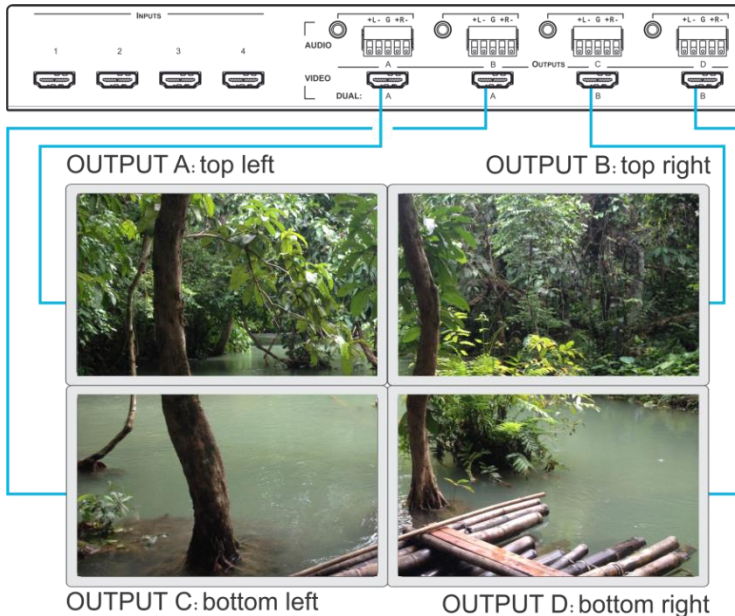
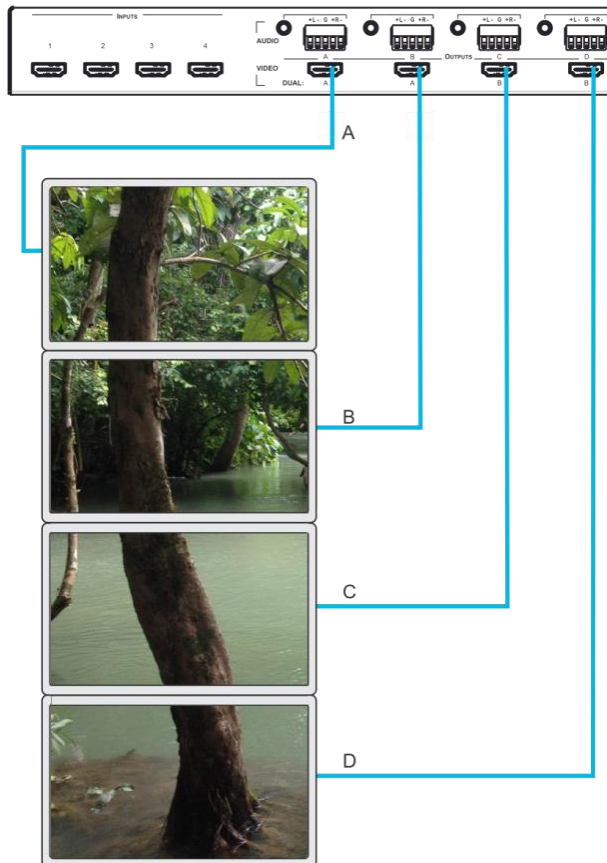

Figure 5: Connecting the VSM-4x4A in 2x2 Video Wall Operation Mode
Figure 6: Connecting the VSM-4x4A in 1x4 Video Wall Operation Mode
To connect the video wall as illustrated in Figure 5 and Figure 6:
1. Connect the inputs, not shown in Figure 5 and Figure 6.
Figure 5 shows a 2x2 video wall layout:
Figure 6 shows a 2x2 video wall layout: